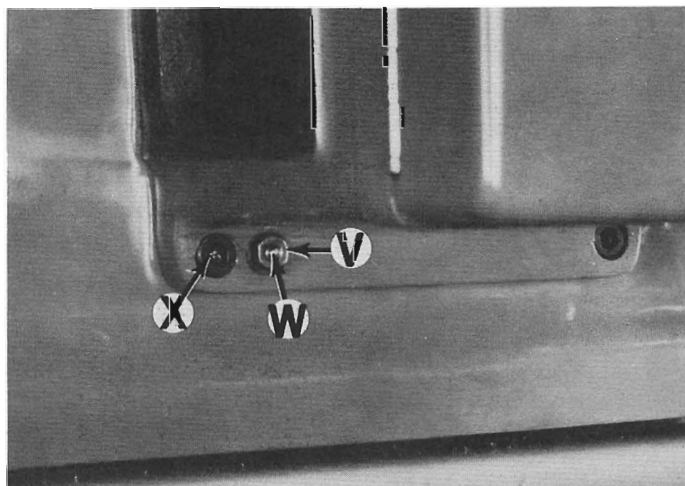
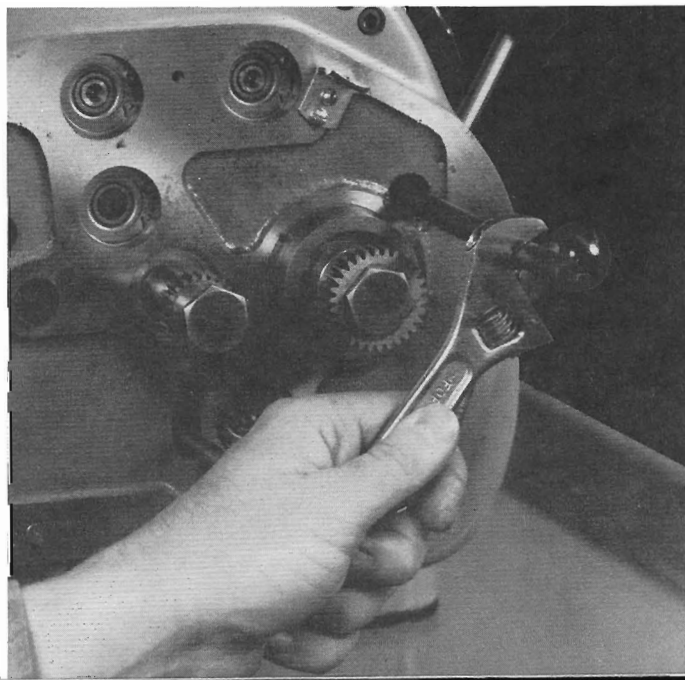

Figure 23 — Locating Pin and Mounting Bolts for Gearbox
Figure 24 — Gearbox Mounting Bolt Removal
10. Turn nut "V", Figure 23, clockwise to remove dowel pin "W".
11. Remove four screws "X", Figure 23, and Figure 24. **NOTE:** Screw removal shown in Figure 24 requires length of hex stock.